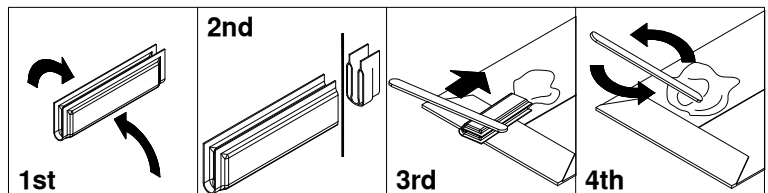

Figure A2: Epoxy preparation steps.
4. **Seal edge of 4" hole.** Due to the composite construction of the bed, painting the edge of the hole with epoxy will restore the sealed surface finish and cover exposed fibers. Before beginning, place a piece of paper or cardboard under the hole to catch any drips. Put on appropriate protective clothing and equipment. Locate the epoxy kit envelope included in the center kit box. Retrieve one of the epoxy packets. Fold the two parts of the packet together and cut one end. Squeeze the contents together onto the kit envelope and use a stirring stick to mix the liquids together, as shown in Figure A2. Using the provided paint brush, paint the cut edge of the 4" hole until completely covered. Once the epoxy packet is open, it should be mixed and applied within 3 minutes.